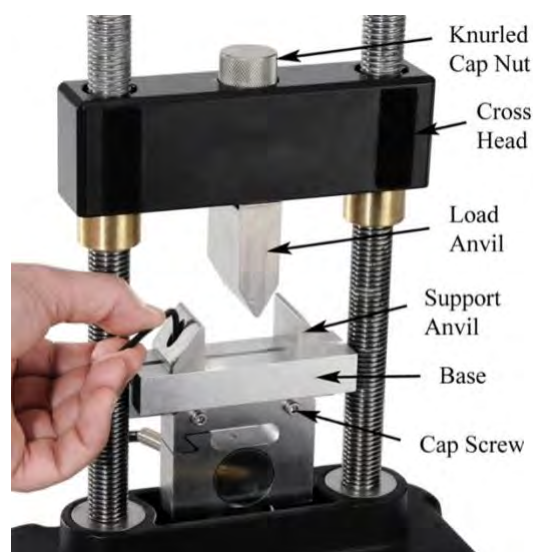

Figure 3: Setting Anvil Spacing
3. The base (for the support anvils) fastens directly to the load cell using the two cap screws as shown in Figure 3.
5. Each anvil is captured by the T-slot in the base, and their separation should always be adjusted so that the Load Anvil is centered between them. Use calipers to make this alignment as accurate as possible. Set the anvil spacing (see Fig. 3) between 4 and 5 cm. Carefully measure the length, L, from the top of the camber on each anvil. You can also just measure between the vertical surfaces, and calculate L by including the 1.5 mm radius on each anvil. Record this value in the table. What is the uncertainty?
6. Measure the diameter of the three rod samples. Use Eqn. (3) to calculate the Area Moment of Inertia, and record in the table.